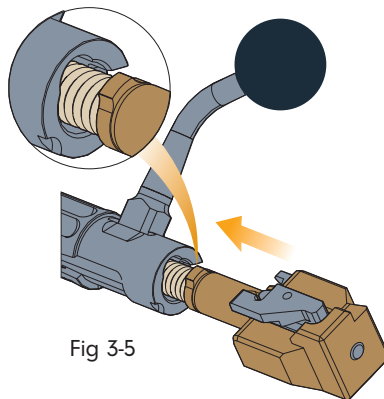

Fig 3-5
- To reassemble the bolt, insert the firing pin/shroud assembly into the bolt body, aligning the shroud retaining lug with the corresponding opening in the bolt body (see Fig 3-5).